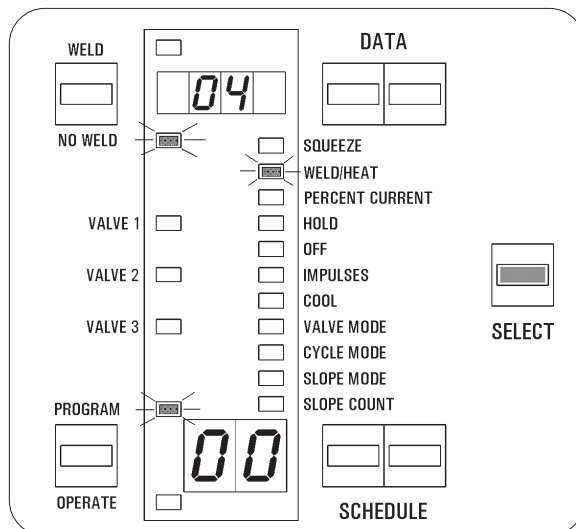

Figure 7-2. *Select WELD/HEAT*
3. Click the SELECT push button until WELD/HEAT parameter is reached (Figure 7-2).